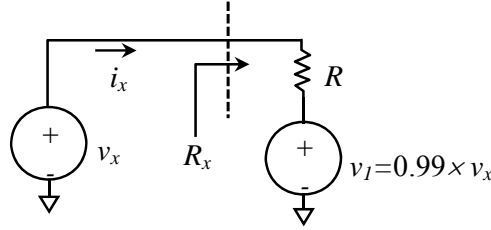

Fig. Q5a
- Q5. (a) Derive R_x in the circuit shown in Fig. Q5a. (Note that v_I is a voltage dependent voltage source and $R_x = v_x / i_x$.)